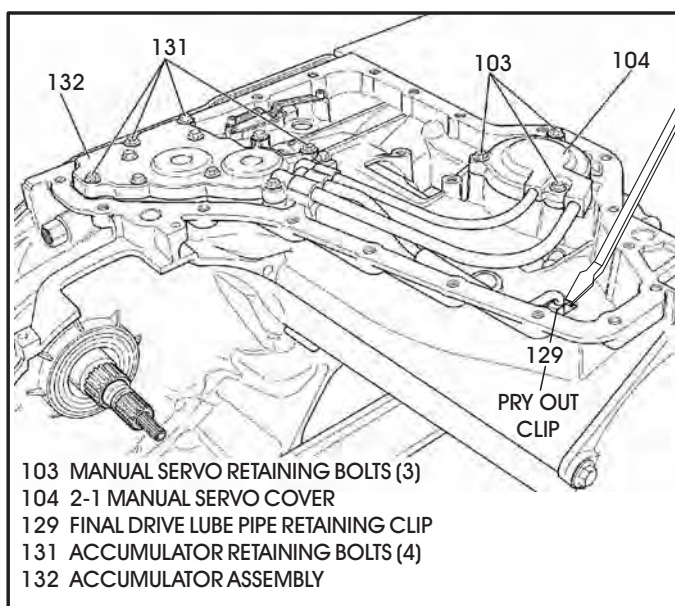

Figure 43
5. Remove only the four accumulator assembly bolts that are shown in Figure 43, item 131.
6. Remove the three 2-1 manual servo cover bolts as shown in Figure 43.
7. Pry out the final drive lube pipe retaining clip, as shown in Figure 43.